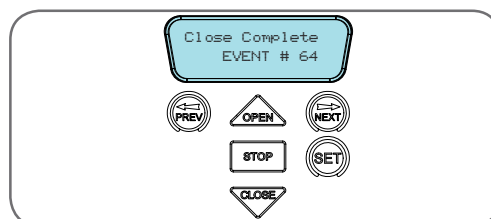

fig 56
The opener keeps a record of the last 64 events that have taken place. The events include the type of drive cycles executed, obstruction detection, various faults, power failures etc. When this tool is selected the screen displays the last event that occurred (Fig. 56). Press NEXT or PREV to view each event. The "EVENT#" field shows the sequence of the events, with (1) being the first and (64) being the last. The example shows that the last event was a close cycle which succeeded in closing the door. When finished viewing the events, press STOP.